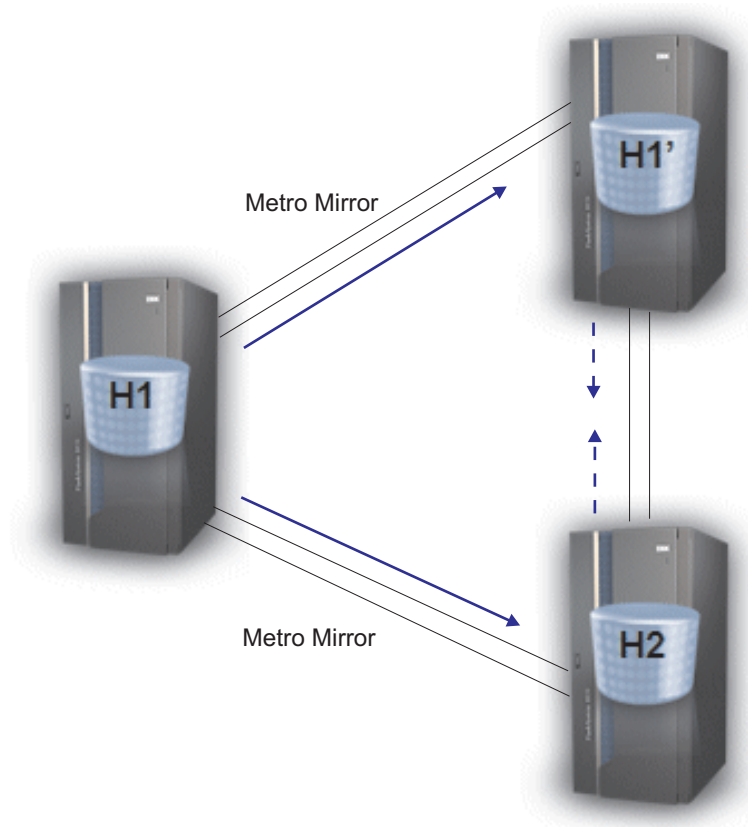

Figure 32. Configuration after Adding H1'
3. Wait for H1 -> H1' to reach full duplex. Figure 32 on page 378 shows the result.